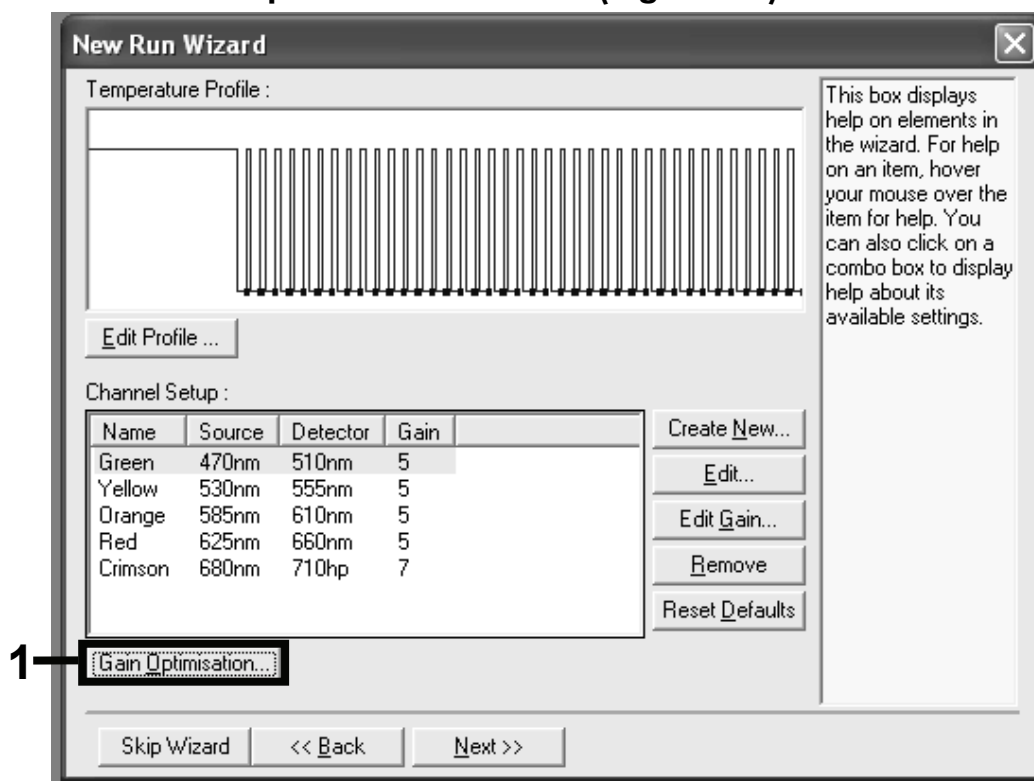

Figure 24. Gain optimisation.
Adjusting the fluorescence channels	Figures 24, 25, 26, 27
19. Click the “Gain Optimisation” button (Figure 24).